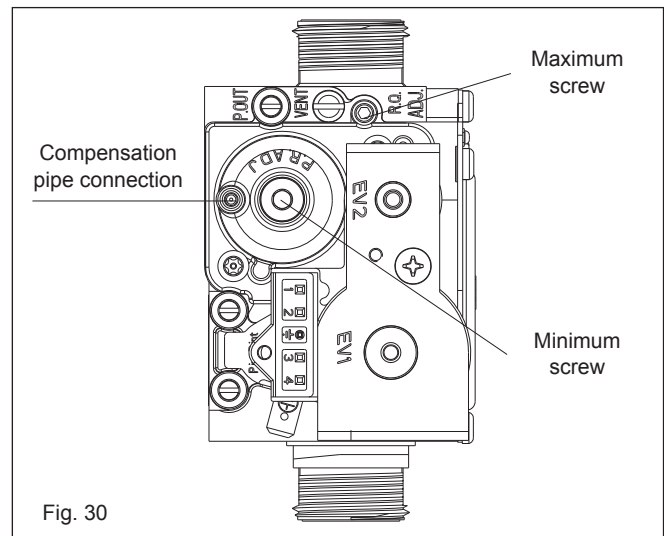

Fig. 30
- Using a suitable screwdriver, very slowly turn the maximum adjustment screw (see fig. 30) – clockwise to decrease, counter clockwise to increase – until the correct value is displayed on the CO2 analyser (allow time for the analyser to stabilise).
- Using a 2,5mm Allen key, very slowly turn the minimum adjustment screw (see fig. 30) – clockwise to increase, counter clockwise to decrease - until the correct value is displayed on the CO2 analyser (allow time for the analyser to stabilise).